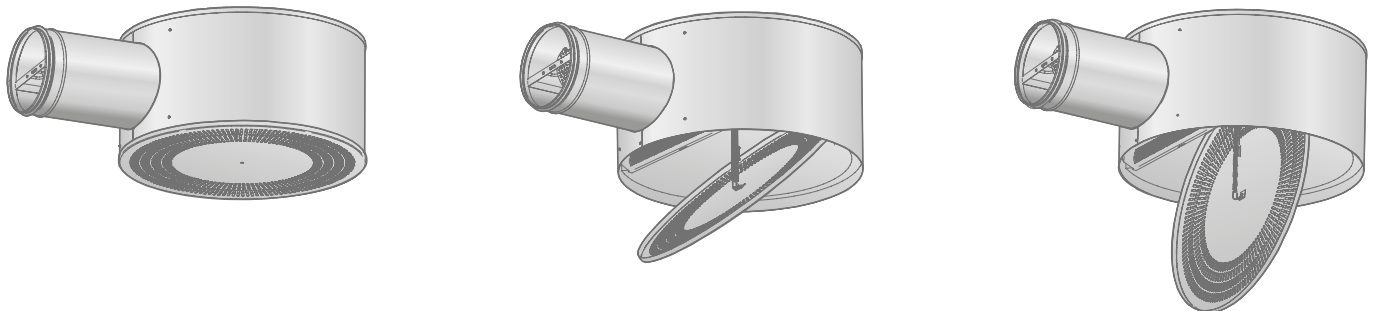

Figure 3. Spring-loaded front.
- The duct system can be accessed by lightly pulling the spring-loaded diffuser face downwards and then tilting, see figure 3.